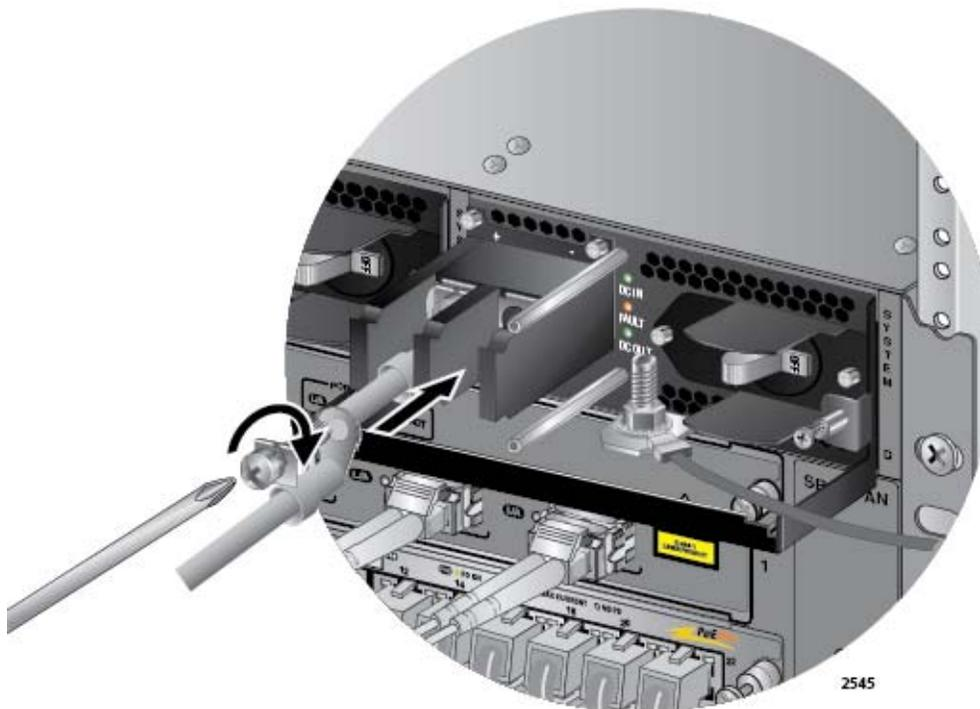

Figure 134. Connecting the Negative (-) Power Wire with a Right Angle Terminal
7. With a #3 Phillips-head screwdriver, connect the negative (-) power lead wire to the negative terminal on the power supply, with the remaining terminal screw removed in step 5. The negative terminal is on the right. Refer to Figure 134 on page 194.